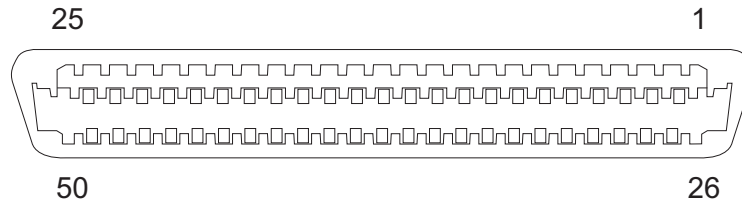

Figure 23. RJ21 connector 0/24–0/31
**Connector B** (ports 0/24–0/31) (see figure 23 and table 13).